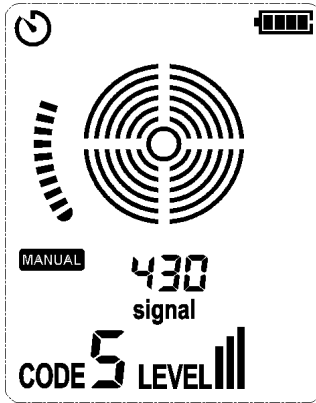

Figure 7.1.4b Signal Detected
2. Use the sensor to scan the target to identify the maximum signal level. During cabling tracking, please adjust the sensitivity regularly so that the signal strength maintains at a certain range (i.e., 300~600), as shown in Figure 7.1.4b. The sensitivity can be increased or decreased by pressing the UP or DOWN button. If the signal strength is too high, please set the transmission level to II